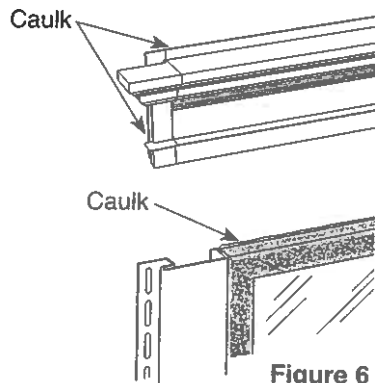

Figure 6
6. For a tight, weather-proof seal, apply a 1/4" caulking bead along top back edge of window/door framing, and on the backside perimeter of the Mantel and End Caps (Figure 6).